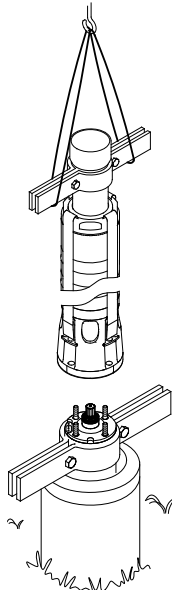

Fig. 21 Lifting the pump into position
- Lift the pump part by means of pipe clamps fitted to the extension pipe. See fig. 21.